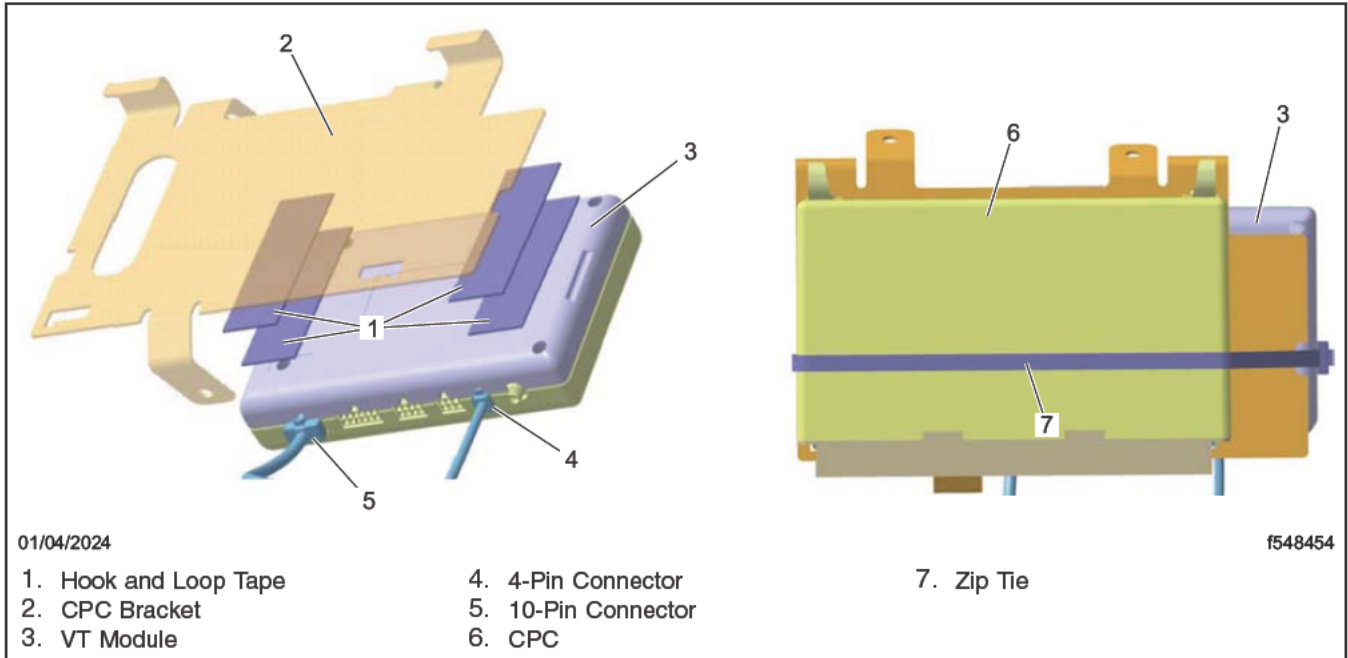

Fig. 7, VT Module Installation on the CPC Bracket
NOTE: The VT module, shown in Fig. 7, is shown on the back side of the CPC bracket.
6. Use the hook and loop tape to install the VT module on the backside of the CPC bracket. See Fig. 7.